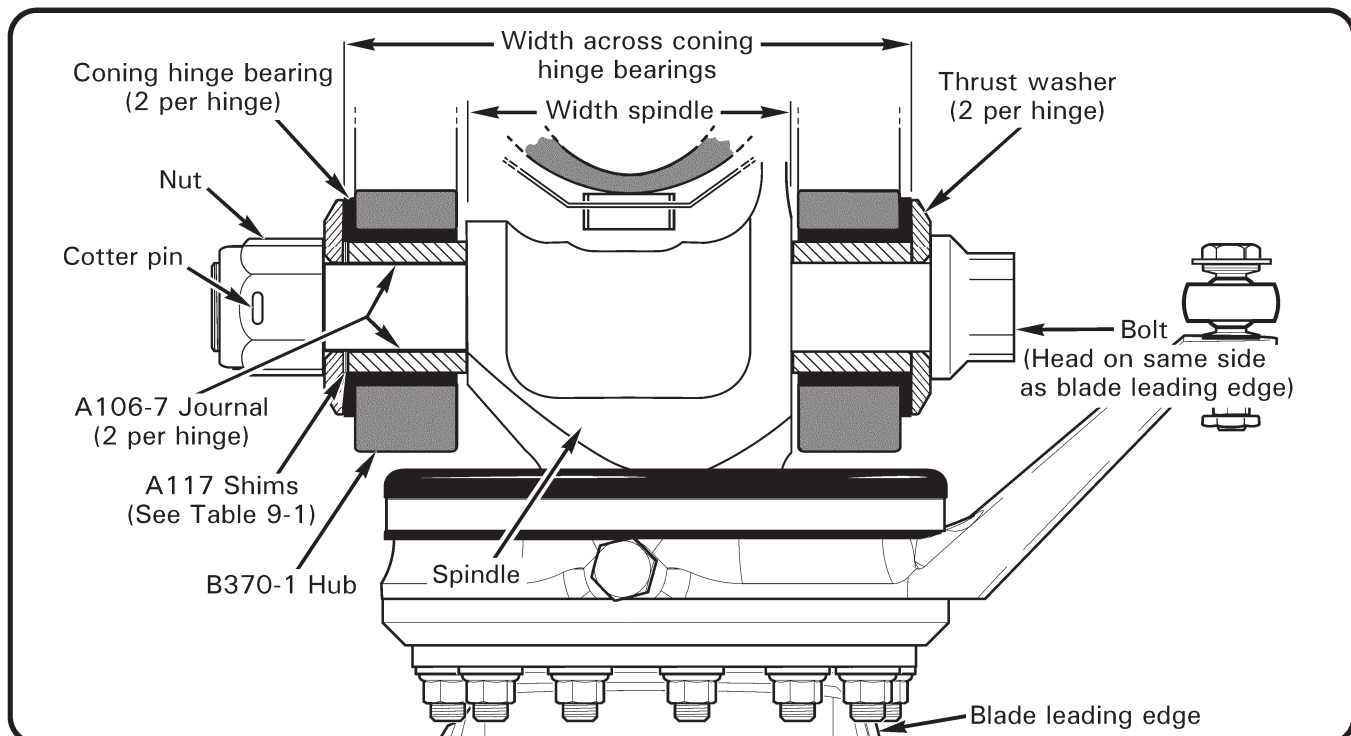

FIGURE 26-6 B370-1 HUB CONING HINGE (BLADE INSTALLATION; VIEW LOOKING DOWN)
1. Refer to Figure 26-6 and Table 26-1. Remove cotter pin, nut, thrust washer, and cone blade to remove nut-side journal.